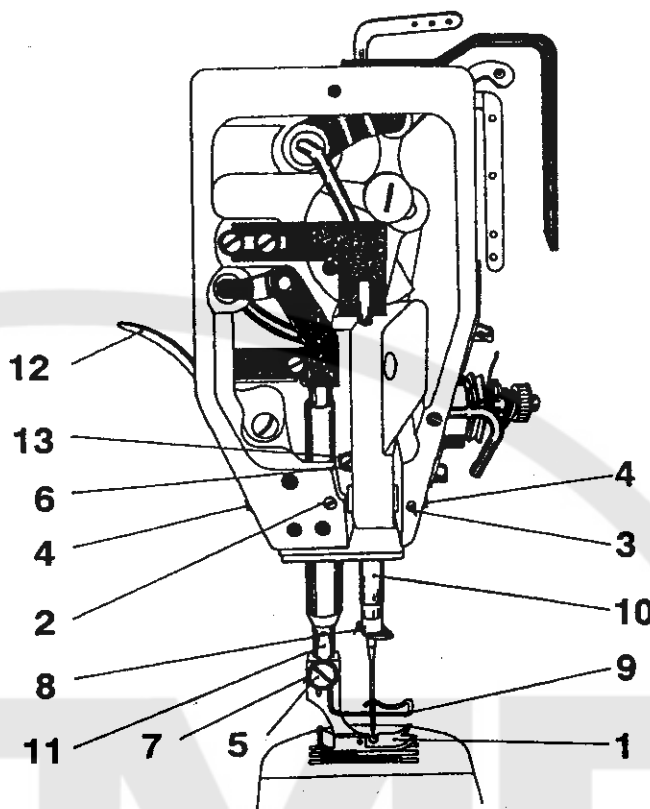

Figure 4
5. To lift the presser foot (Fig. 4)
7. To insert the needle (Fig. 4)
8. To adjust in height the needle bar (Fig. 4)
14. To exchange the presser foot (Fig. 4)
16. To adjust the needle punches longitudinally into the centre of the slot of the throat plate (Fig. 4)